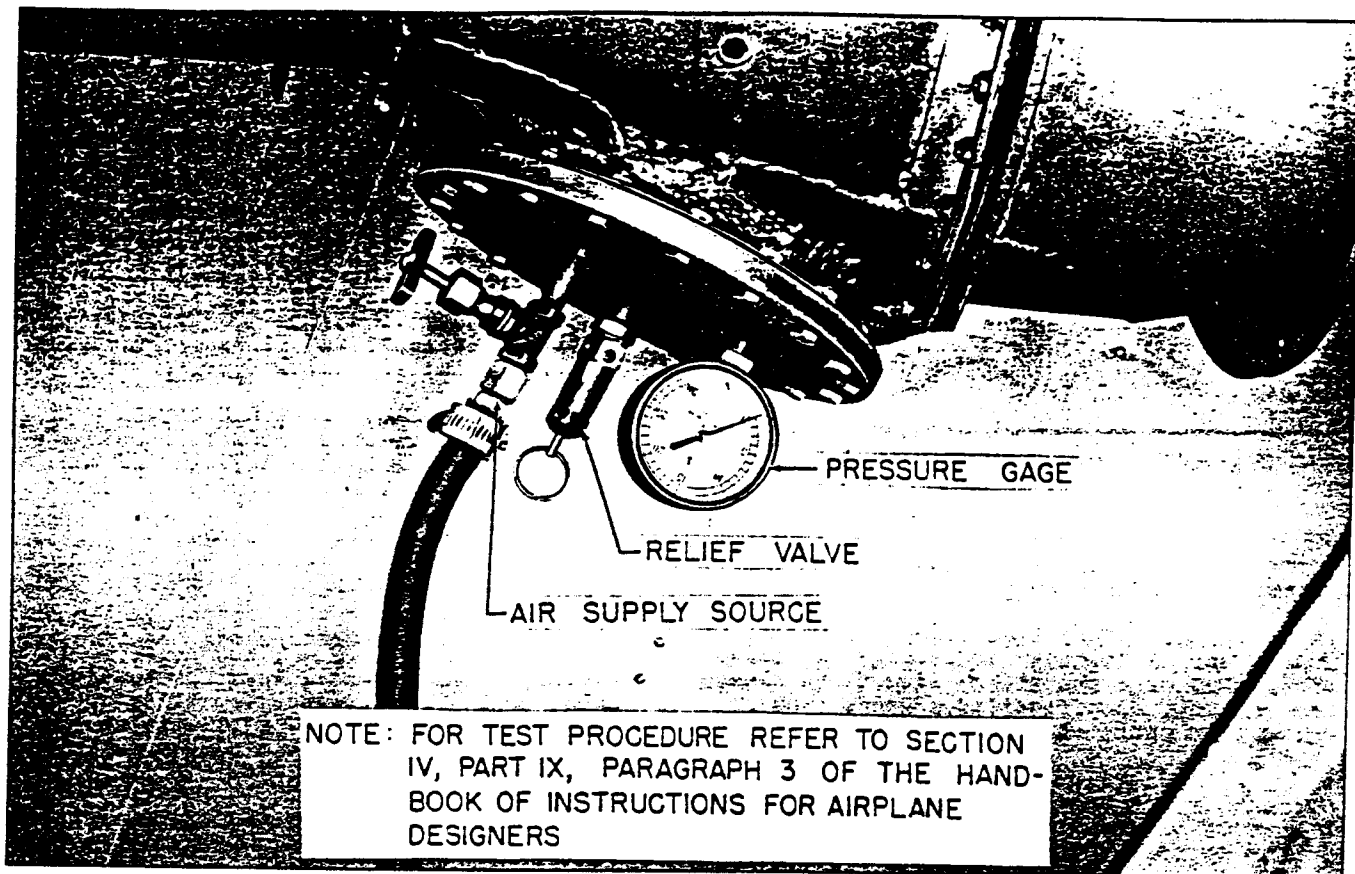

Figure 8. Induction System Pressure Test
5. **INDUCTION SYSTEM PRESSURE TEST.**- Leaks in the induction system force the turbosupercharger to operate at a higher speed to supply the excessive quantity of air required as a result of the leakage. This may result in the exhaust back pressure becoming so high that normal engine power output can no longer be attained, or the speed of the turbosupercharger rotor may become so excessive that the overspeed turbo-governor will come into action and force the wastegate open. This latter condition prevents overspeeding of the wheel, and thus lowers the critical altitude of the airplane. Pressure test the induction system as illustrated in figure 8. Repair or replace parts as necessary to eliminate any leaks discovered in the induction system.